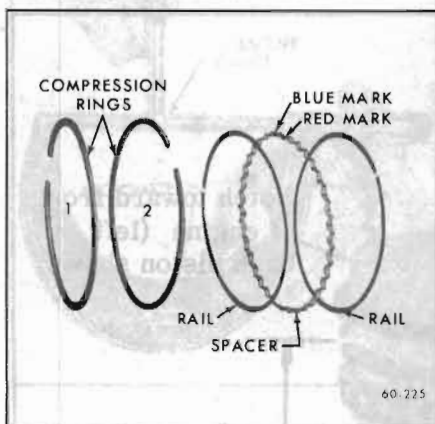

Figure 60-337—Piston Rings
7. Remove compression rings. Then remove oil ring by removing the two rails, spacer, and expander which are separate pieces in each piston third groove. See Figure 60-337.
**NOTE:** To make certain expander ring does not overlap a red and blue mark will be visible on ring. See Figure 60-337.